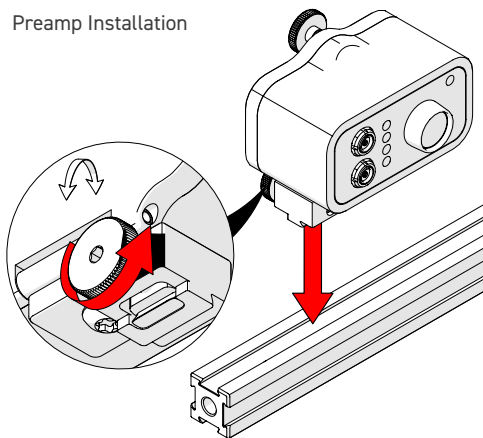

Fig. 28 - Mount preamp to the frame bar
1. Loosen the knob of the preamp mounting bracket **1** (Fig. 28).
2. Align the preamp's mounting bracket with the dove-tail of a frame bar **2** (Fig. 28).